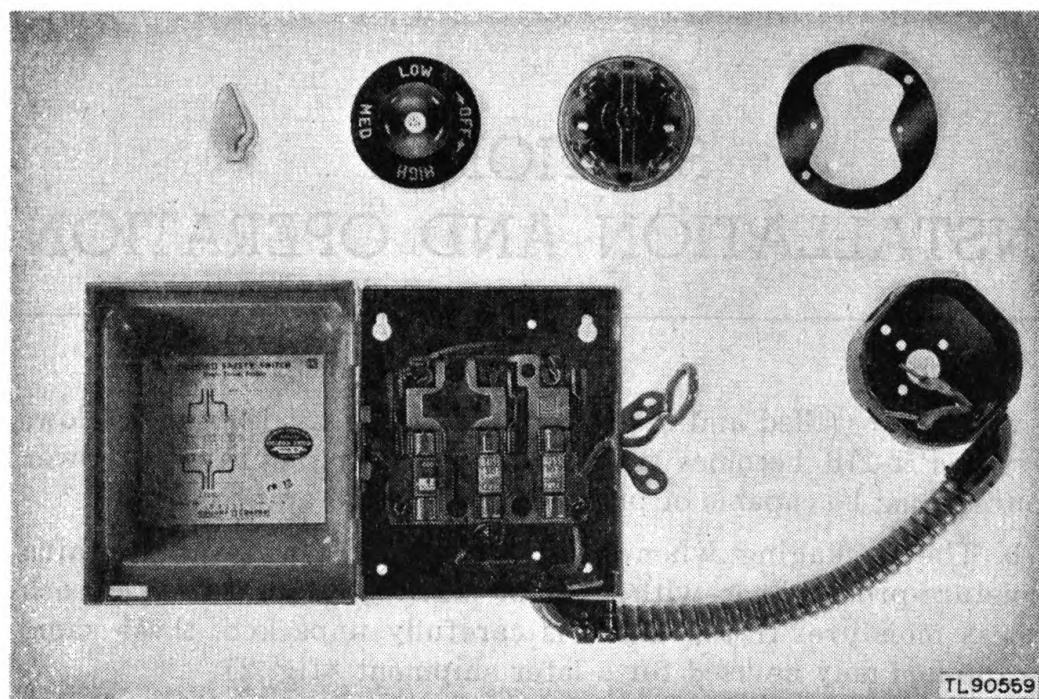
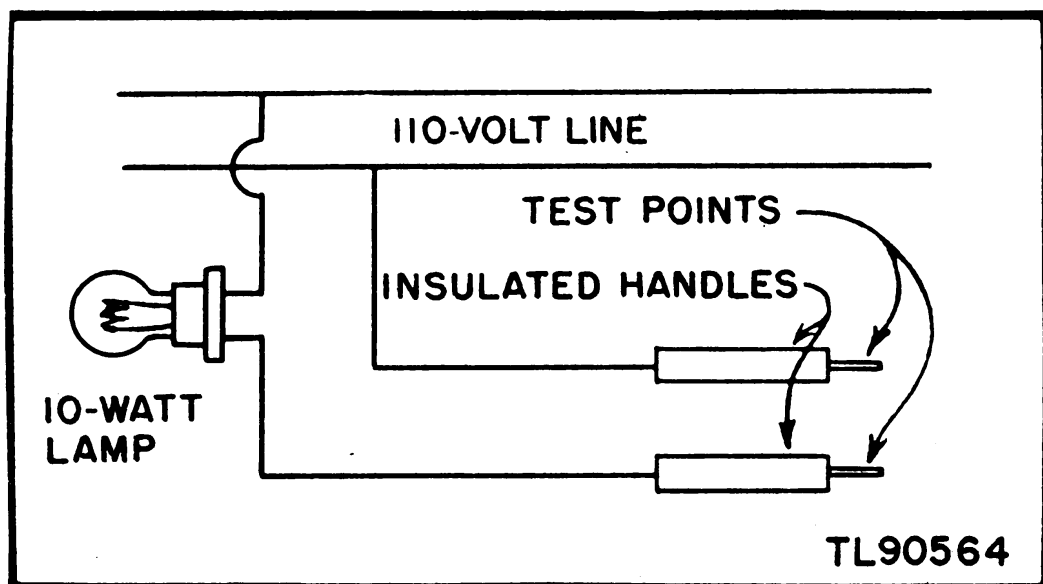

Figure 5. Switches, controls, and fuse box.
Figure 9. Test lamp set.
**j. Switches.** The power supply is controlled by two switches. The main switch is a 30-ampere, externally controlled safety switch. The box for this switch contains two 30-ampere cartridge fuses for the protection of the heating elements, and one 4-ampere cartridge fuse for the protection of the motor (fig. 5). This switch has two positions: ON and OFF. The second switch is either a black or white porcelain base rotary snap switch connected into the circuit supplying the heating elements. This switch has four positions: OFF, LOW, MED (medium), and HIGH, and controls the amount of heat applied to the prints through the drum surface.
**c. Fuses.** To inspect for burned-out fuses (fig. 5), open the safety switch box. Examine the fuses and replace any that do not complete the circuit when they are tested on a test lamp set (fig. 9). The two right-hand fuses are of 30-ampere capacity and the left-hand fuse is of 4-ampere capacity.
(2) Remove the two screws which are countersunk and which hold the switch to the spider cover of the box. Remove the switch and replace it. In replacing it, be sure that all leads are connected properly.
**c. Service Cord.** Inspect the service cord for a broken lead by placing the points of the test lamp set (fig. 9) on the ends of the leads. If the test lamp lights, the leads are satisfactory. If the insulation is not cut or damaged, the cord is still fit for further service. Examine the plug on the end of the cord. Do not use it if it is bent or has loose connections.